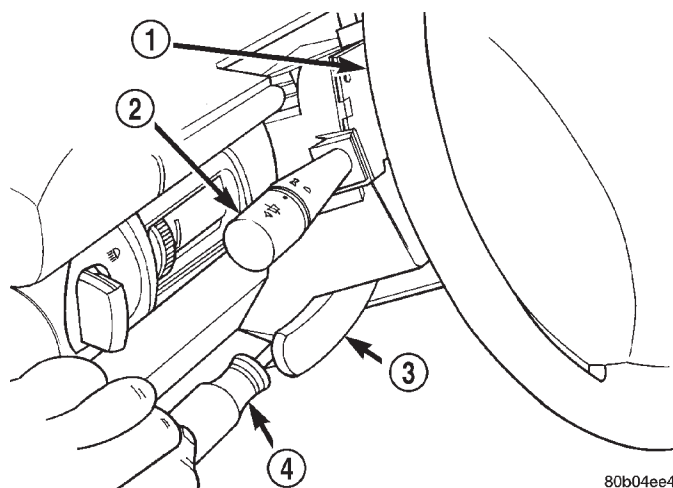

Fig. 44 Tilt Lever Screw Removal/Installation
(5) Tilt the column to the uppermost position and remove the tilt lever (Fig. 44).